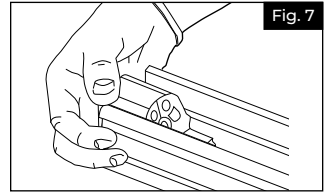

Fig. 7
- a. Insert mounting brackets (L) in each end of bottom beam (C) (Fig. 7).